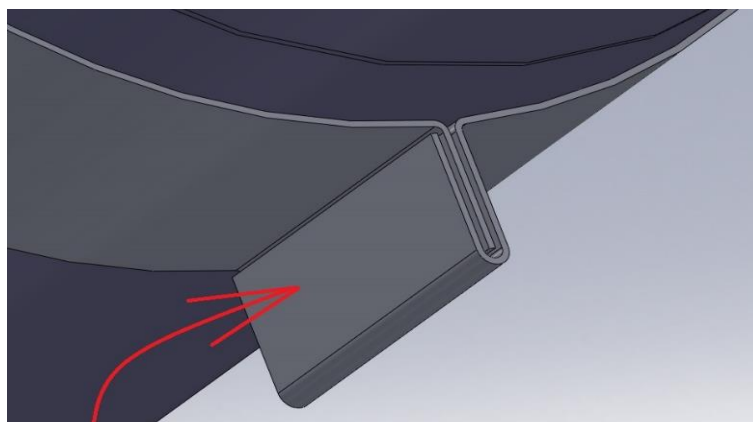

Fig. 5
- Tighten the label all around and bend the end part – see Fig. 5.